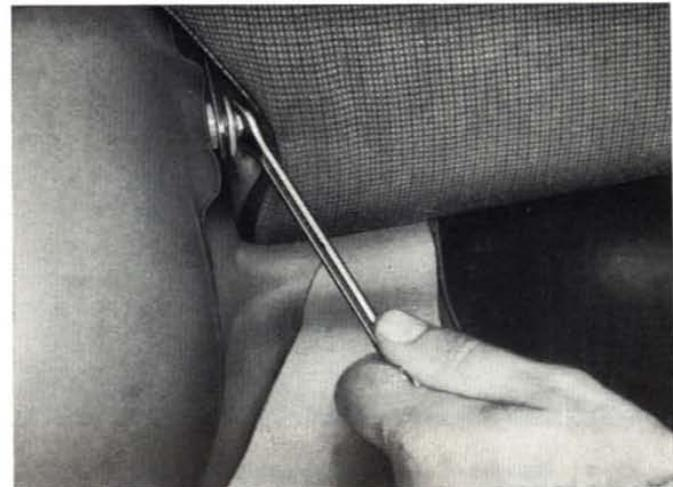

Fig. 409 - Removing rear seat back rest.
– to remove the rear seat back rest, back out the screws securing articulation joints to wheelhousings (fig. 409).